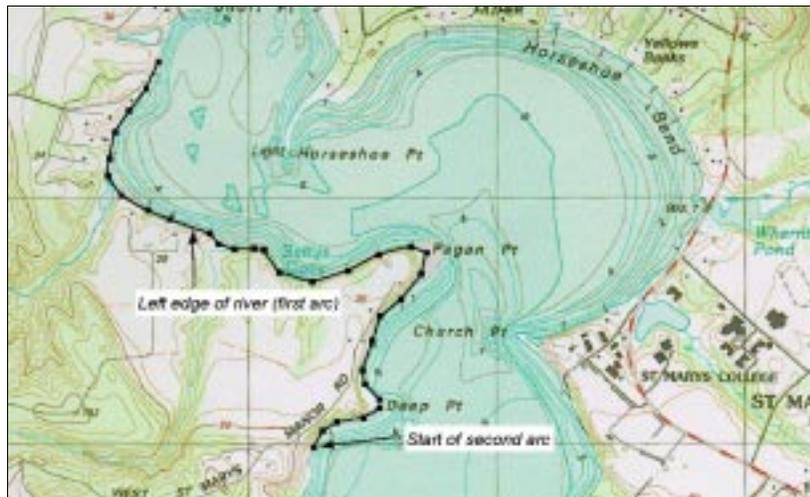

Figure 2-4 Creation of the first feature arc.
2. Click out the left river bank, as shown in Figure 2-4. As you create the arc, if you make a mistake and wish to back up, press the *BACKSPACE* key. If you wish to abort the arc and start over, press the *ESC* key. Double-click the last point to end the arc.